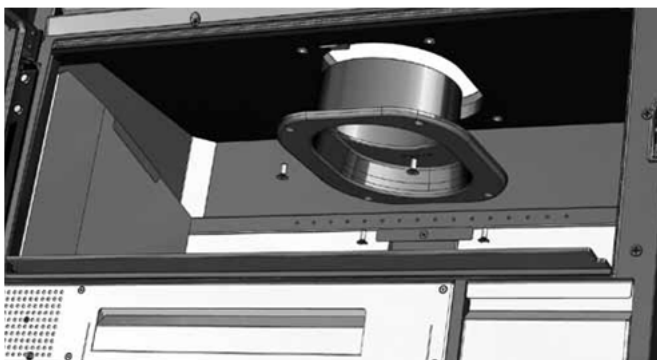

FIG. 13
3. Turn the chimney outlet 180° (fig.13).